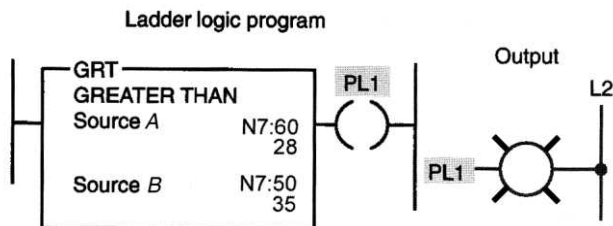

Figure 10-8 Logic rung for question 15.
15. The logic rung in Figure 10-8 15._____